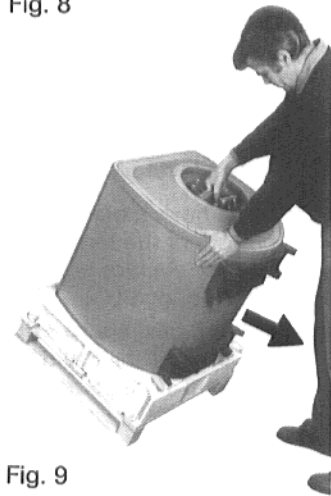

Fig. 9
3. Glide tank cover the edge of the palett on its feet (Fig. 9).